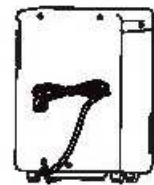

Fig.13
- Wrap the cord and bundle with the band. (Fig.13)